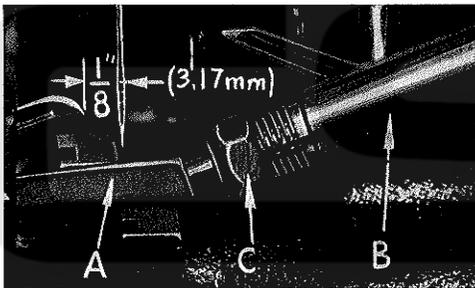

Fig. 5
At this point on all Styles except 39500 TG, insert lower looper (A, Fig. 5) into bar (B). On Style 39500 TG insert lower spreader into bar (B). With lower looper at left end of its stroke, set looper point  $\frac{1}{8}$  inch (3.17 mm) from center of needle (Fig. 5), using looper gauge No. 21225- $\frac{1}{8}$  for Styles 39500 QJ, QL, QN, QV, RP, RU, SJ and SR. Set lower looper point for Styles 39500 QX, SX and TY; and lower spreader point for Style 39500 TG  $\frac{3}{32}$  inch (2.38 mm) from center of needle, using looper gauge No. 21225- $\frac{3}{32}$ . Do not have lower looper or lower spreader deflecting needle. Tighten nut (C).